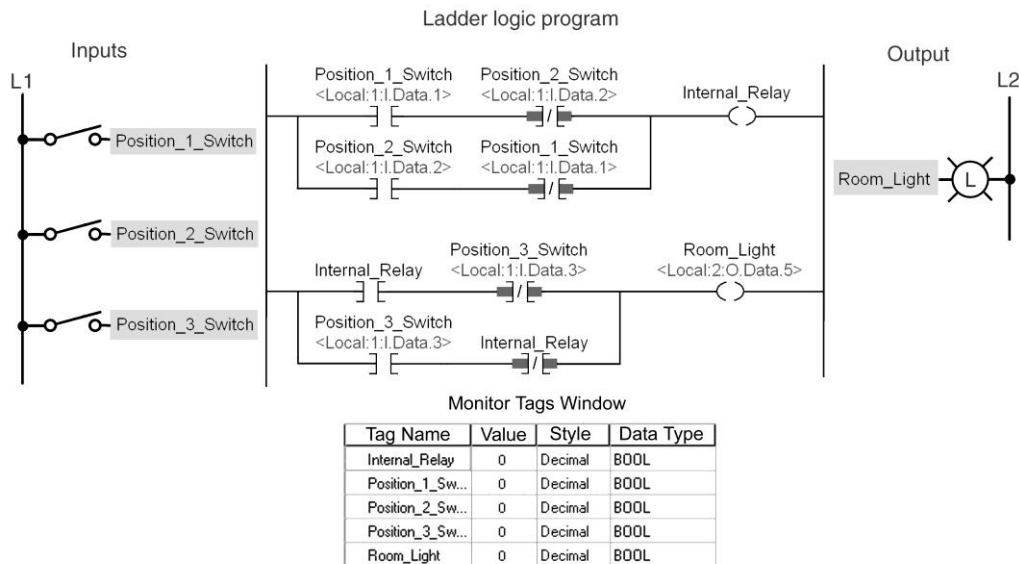

Figure 15-13 Internal relay program for question 16.
16. For the internal relay program shown in Figure 15-13, 16a. _____